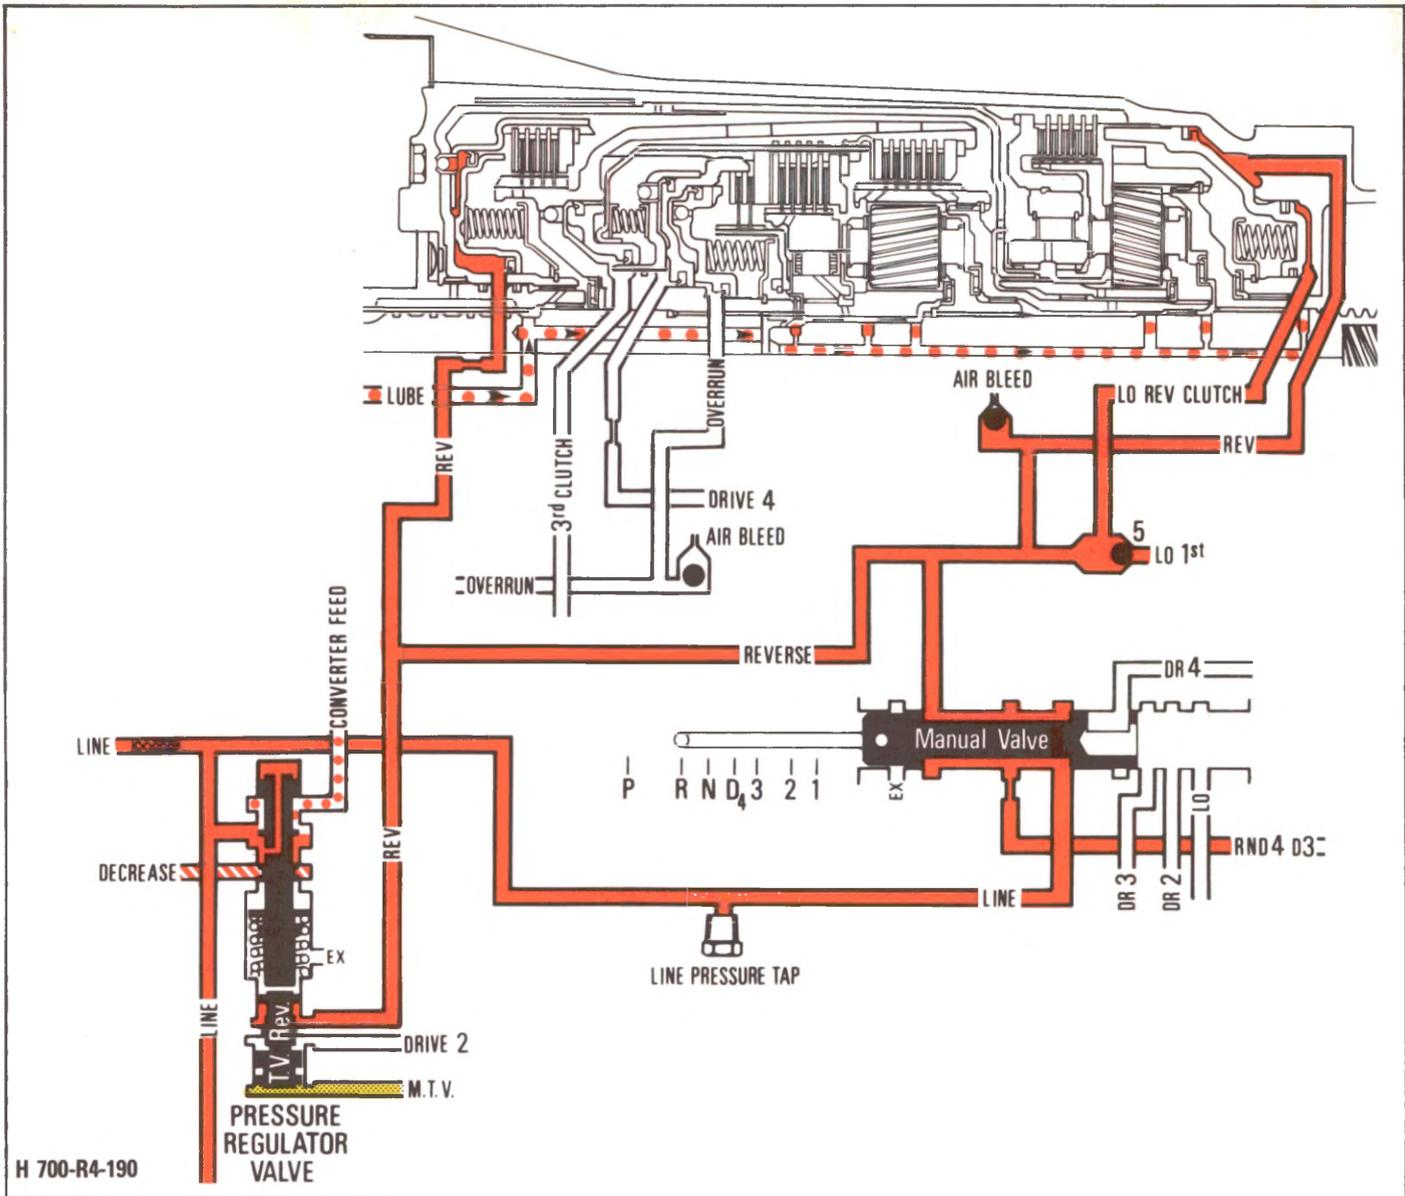

Figure 70 - Reverse
Selecting the reverse position moves the manual valve to allow D4, D3, D2, and lo oil to be exhausted. Line oil then enters the reverse passage where it seats the lo and reverse check ball (5) in the lo/1st passage and applies the lo and reverse clutch (Fig. 70).